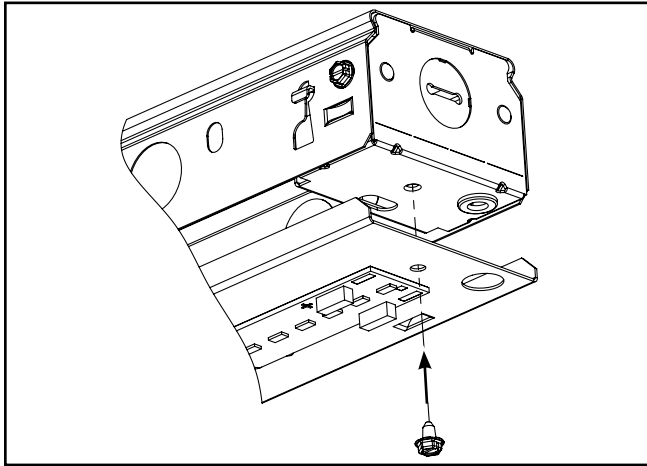

Figure 1.
2. Install channel cover with screws provided (Figure 1.).